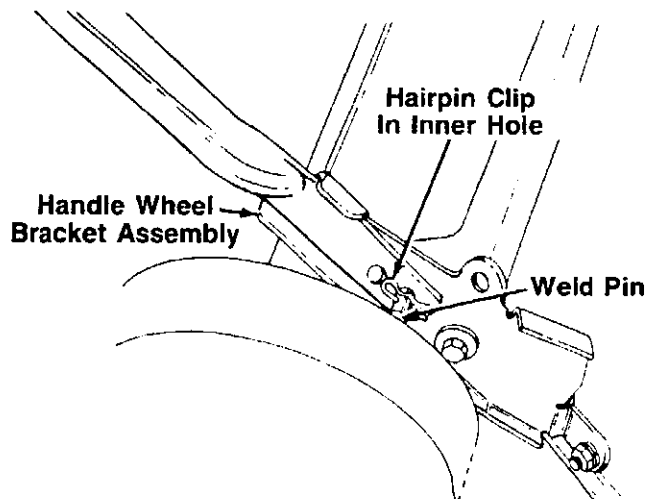

FIGURE 1.
3. Using a pair of pliers, squeeze one leg of the lower handle against the handle mounting bracket. Insert the hairpin clip into the **inner hole** on the weld pin. See figure 1. Repeat on other side.